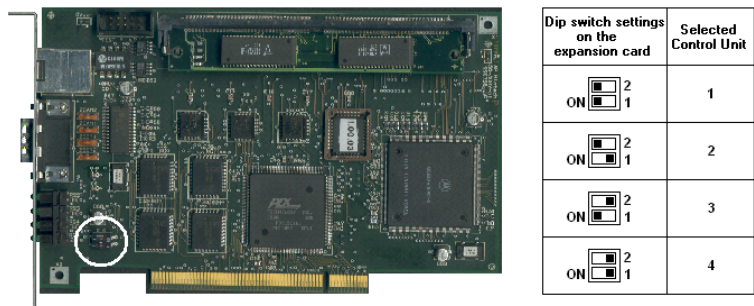

Figure C-1. The PCI expansion card and dipswitch settings for the CU.
5. Set the control unit (CU) setting by using a dip switch. To check the CU setting, compare the expansion card with the settings shown in Fig. C-1. Record the number of the set CU. During installation of UNICORN software, the Setup program will request these card settings. Enter the correct value for the selected CU so that UNICORN can find the systems.